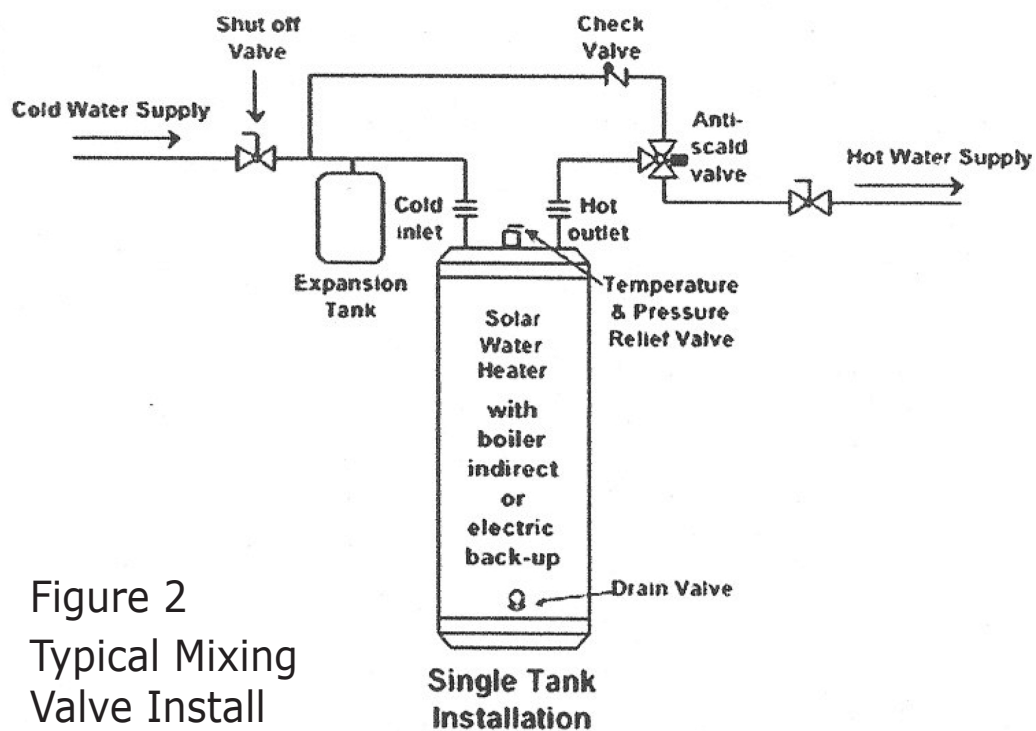
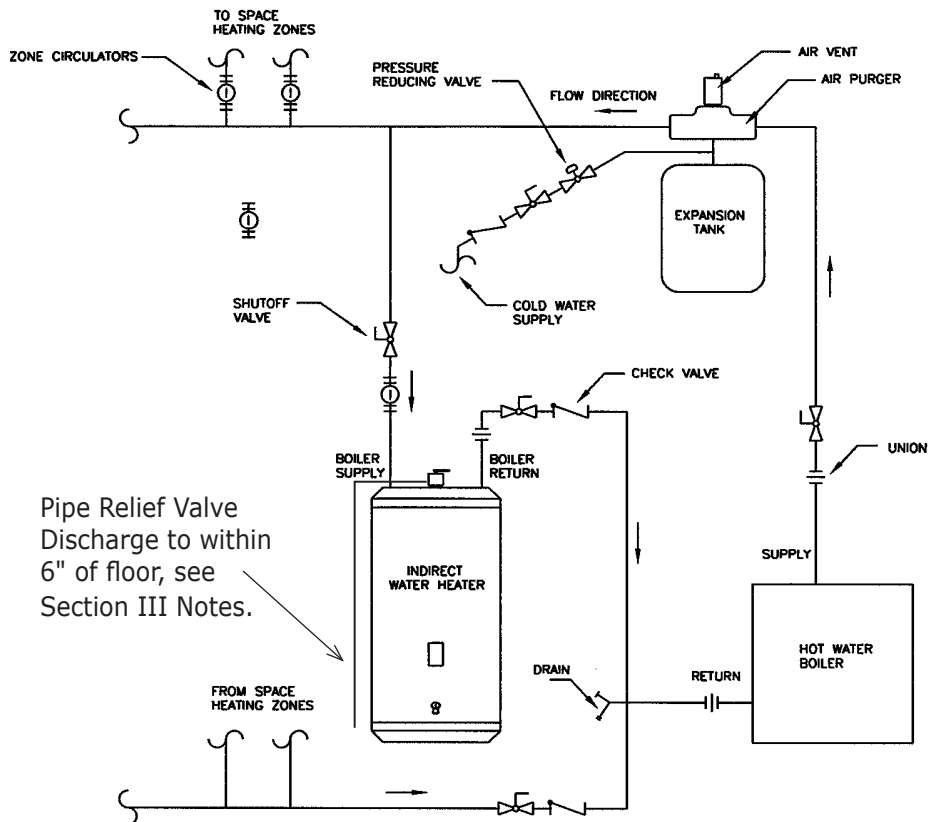

Figure 2
FIGURE 3 - BOILER WATER PIPING WITH ZONE CIRCULATORS
B. Water boiler piping. See Figures 2 and 3.
1. Determine where the boiler, the space heating, and the water heater connections should be made based on the type of piping system that is either in place, or is to be installed for a new hydronic system installation. See Figure 2, Boiler Water Piping with Zone Circulators, and Figure 3, Boiler Water Piping with Zone Valves.
For space heating systems that use Zone Circulators, refer to Figure 2. The water heater connection labeled "BOILER SUPPLY" should be piped to the boiler supply piping after the air purger and before the space heating takeoffs. Mount the water heater circulator as close as possible to the water heater, and make sure the flow arrow points toward the water heater. The use of shut-off valves is recommended for future service convenience.
For a space heating system that uses Zone Valves, refer to Figure 3. The water heater connection labeled "BOILER SUPPLY" should be piped to the boiler supply piping after the air purger and before the space heating circulator. Mount the water heater circulator as close as possible to the water heater, and make sure the flow arrow points toward the water heater. The use of a shut-off valve is recommended for future service convenience.